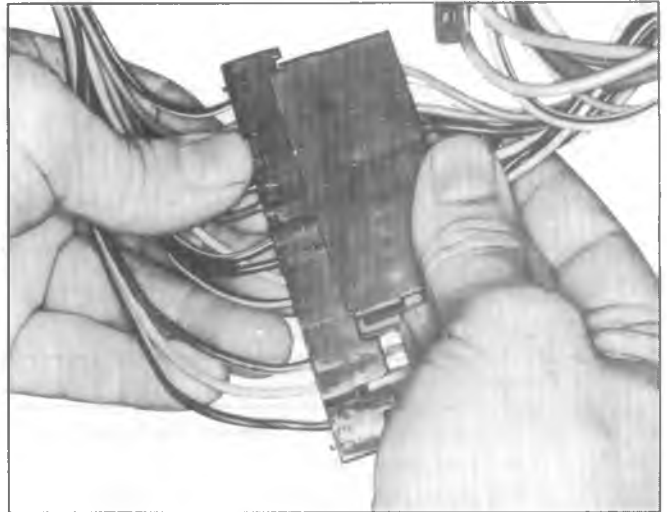

Fig. 3B4-10—Checking Harmonica Connector on Column
2. Check for secure connection at the chassis to switch connector. This is the harmonica connector on the column (Figure 3B4-10). Secure if loose. Check all individual wire terminals for proper seating in the connector bodies. Terminals should be locked in place.
If **all** lamps light when hazard warning is depressed, but flashing does not occur, replace hazard warning flasher. (On fuse block) (Figure 3B4-11).